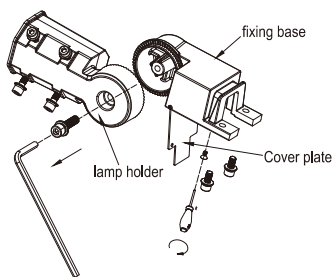

Fig 16
Step 1 . Use a wrench to unscrew the screws of LAMP Holder and Fixing Base, and separate LAMP Holder and Fixing Base. Use a wrench to unscrew the four screws of LAMP Holder and keep the screws not to fall off. Use a screwdriver to unscrew the cover screw and open the cover, as shown in Figure 16